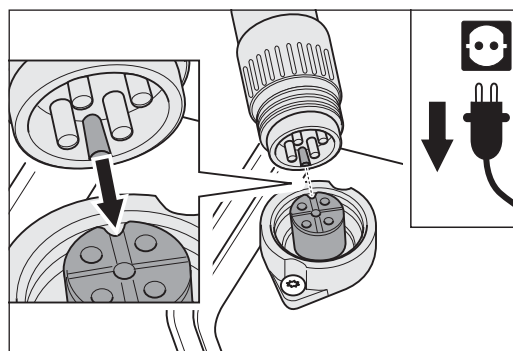
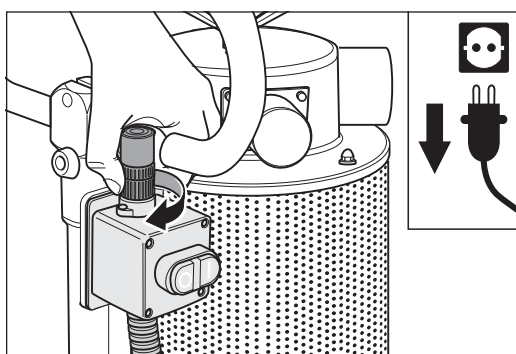

Fig. 57 Insert the cable plug of the sensor into the switch. **Make sure that the nose of the cable plug is inserted into the groove of the socket!**
Fig. 58 Lock the cable plug of the sensor by turning the ring nut.
- 4 Insert the cable plug of the sensor into the ON/OFF switch. **Make sure the nose of the cable plug is inserted in the groove of the socket (fig. 57)!** Lock this connection by turning the ring nut **clockwise** (fig. 58).